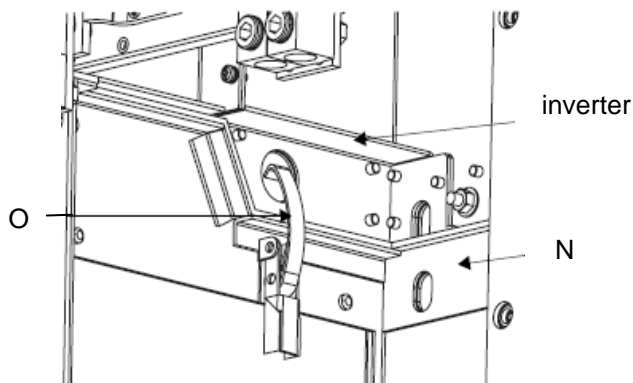

Figure 12
Step4: Attach the two hardware clip sets (O) to the two sides of support frame (N) and clip the support frame. The hardware clip set includes a hardware clip, a M5 nut and a captive conical washer. See figure 12.
<ul style="list-style-type: none"> ● Be sure to install the EMC plate1 as figure 12 properly. ● Do not operate the inverter without EMC plate1 properly in place.